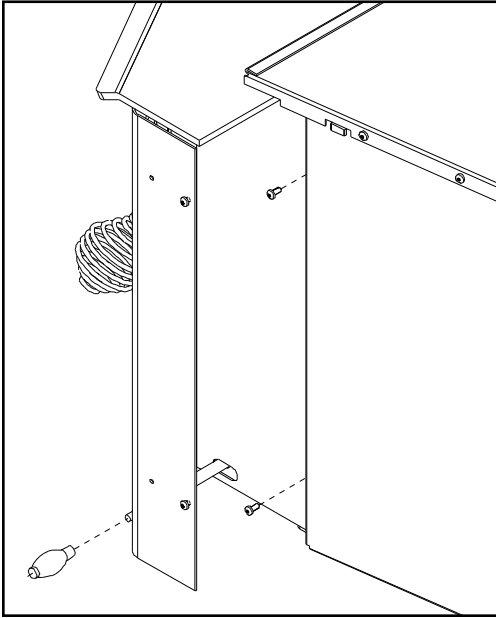

Figure 49: Removal of right pod.
- b. For the second method (recommended for the right shroud), remove the two (2) T-20 screws that hold the shroud to the unit (shown in Figure 49). Pull the shroud out through the side.